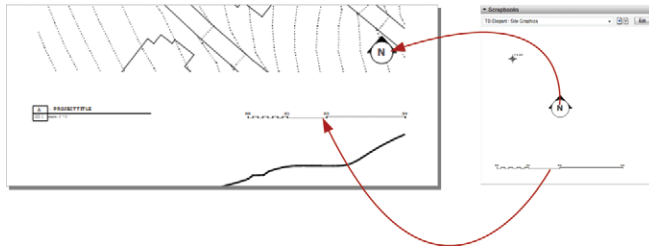

Figure 15.39 Add site graphics.
6. Add a graphic scale and North arrow from the collection (Figure 15.39).